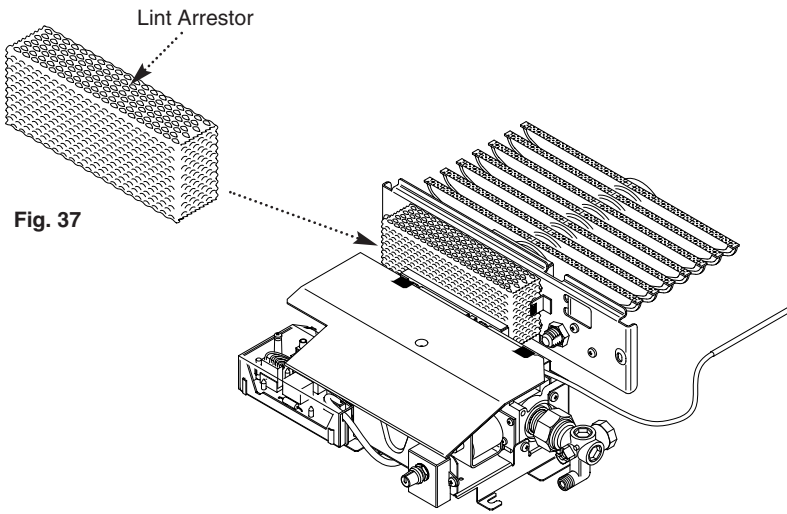

Fig. 37
1. Remove the lint arrester from its retaining clips on the burner mounting plate and clean away any deposits (Fig. 37).